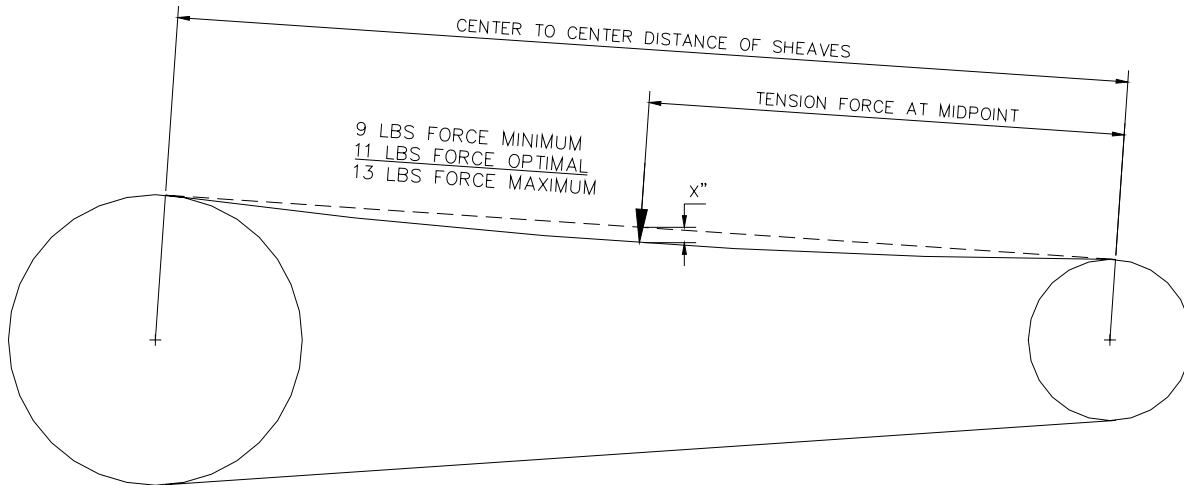

FIGURE 7.5 Belt Tension Requirements
7. **Before replacing the belt, inspect the condition of the sheaves.** Dusty, rusty or worn sheaves can reduce the belt life up to 50%. To replace and tension the belt, place belt around sheaves and rotate the hex head bolt (ITEM 5) on the eccentric sleeve (ITEM 4) **clockwise** to increase the belt tension. See Figure 7.5 “Belt Tension Requirements” for correct belt tension. Never force the belt on the sheaves. Forcing the belt can cause internal damage to the belt. **BE SURE THAT THE BELT IS SECURE IN THE GROOVES OF THE SHEAVES BEFORE CONTINUING.**
The correct belt tension is important for the life of the belt, sheaves and wheel bearing unit. Too much belt tension will reduce the operating life of these components. The correct belt tension is also important for the efficiency of power transmission. If the belt does not have enough tension, the belts may slip causing a decrease in production and an increase in belt and sheave wear. **As seen in Figure 7.5, the optimal tension for this system is 11 lbs of force.** The belt should deflect 1/64" per inch of "center-to-center" distance of the sheaves under the optimal tension force. For example, if the "center-to-center" distance of the sheaves was 64" then 64/64 would equal 1" of deflection under the optimal tension force. Measure the "center-to-center" distance of the sheaves and divide by 64. This will be your desired deflection with 11 lbs of force. **This particular system should deflect approximately 1/4" with 11 lbs of force.** It is recommended that a V-belt tension tester is used when adjusting the belt tension. V-belt tension testers are inexpensive and may be purchased from most V-belt manufacturers.